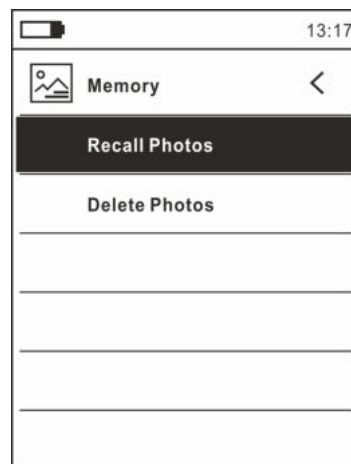

Fig. 6: Menu Memory
18. Use the keys ▲ or ▼ and key **OK** to select option "Delete photo" (see Fig. 6). The following screen appears on the display: